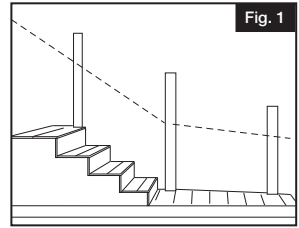

Fig. 1
- Start all Handrail installations by laying out and marking the desired height of the top of the Handrail on all posts and mounting surfaces (Fig. 1). This Handrail layout line will be used in the following steps for mounting all components.